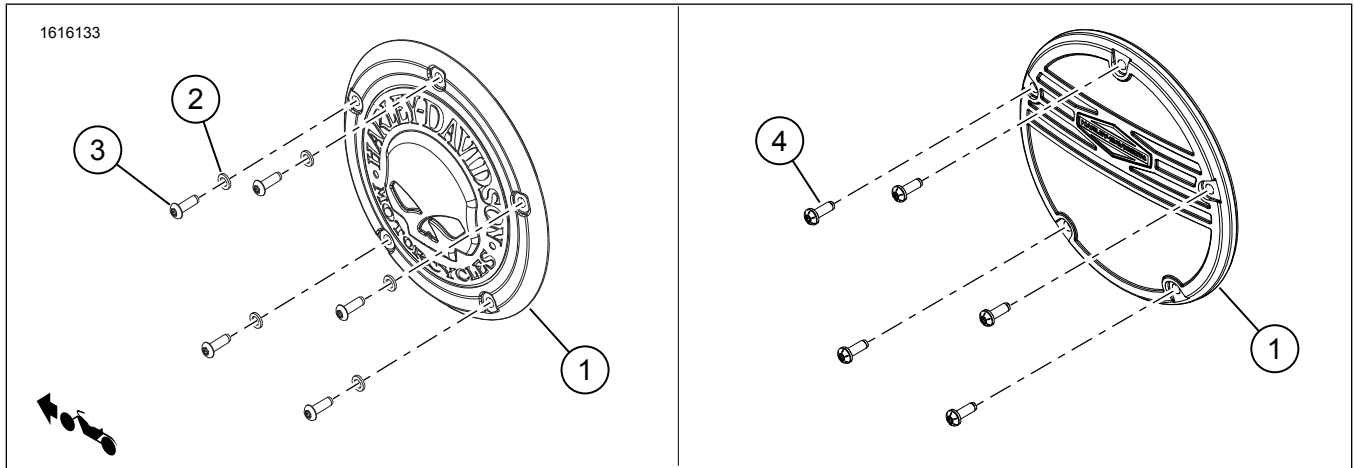
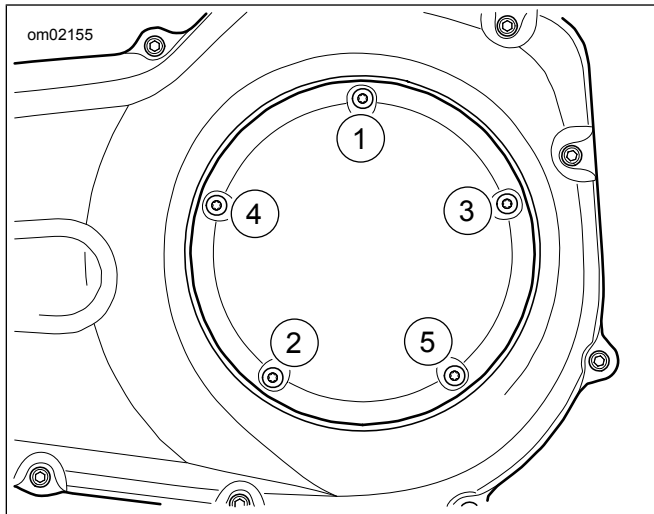

Figure 1. Kit Contents: Derby Cover Components
Figure 2. Clutch Cover Tightening Sequence
1. See Figure 1. Install **new** cover (1).
2. Install washers (2) and screws (3).
3. See Figure 2. Tighten screws (3) in a star pattern.
1. See Figure 1. Apply threadlocker to threads of screws (4).
2. Install **new** cover (1).
3. Install screws (4).
4. See Figure 2. Tighten screws (4) in a star pattern.